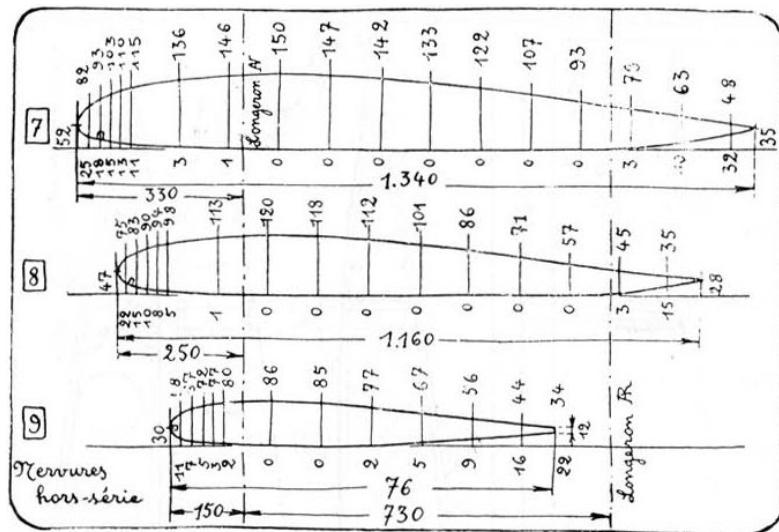

Figure 4.4: Non-standard rib pattern
The non-standard ribs ⑦, ⑧, and ⑨, of which you make four each, will be drawn and built in the same way; following Figure 4.4.